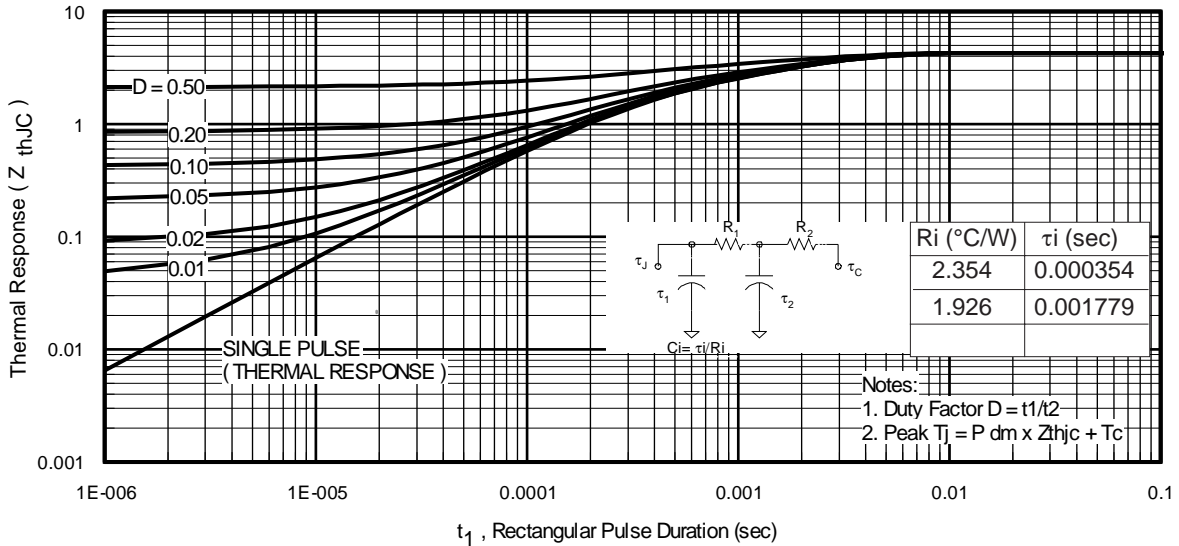

Fig 11. Maximum Effective Transient Thermal Impedance, Junction-to-Case
$Z_{thJC}(D, t_{av})$ = Transient thermal resistance, see figure 11)
- ① Repetitive rating; pulse width limited by max. junction temperature. (See fig. 11).
- ② Limited by T_{Jmax} , starting $T_J = 25^\circ\text{C}$, $L = 0.54\text{mH}$, $R_G = 25\Omega$, $I_{AS} = 9.6\text{A}$, $V_{GS} = 10\text{V}$. Part not recommended for use above this value.
- ③ Pulse width $\leq 1.0\text{ms}$; duty cycle $\leq 2\%$.
- ④ C_{OSS} eff. is a fixed capacitance that gives the same charging time as C_{OSS} while V_{DS} is rising from 0 to 80% V_{DSS} .